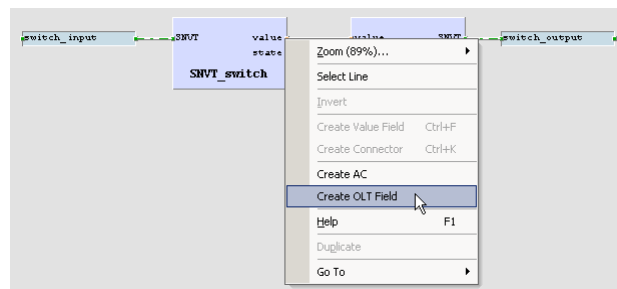

Figure 52: Create online test fields
12. For later debugging, it is good practice to add online test fields to the drawing, to display the current value of the signals during online test. To do this, right-click on the value output of the left function block and select **Create OLT Field** from the context menu, as shown in Figure 52.